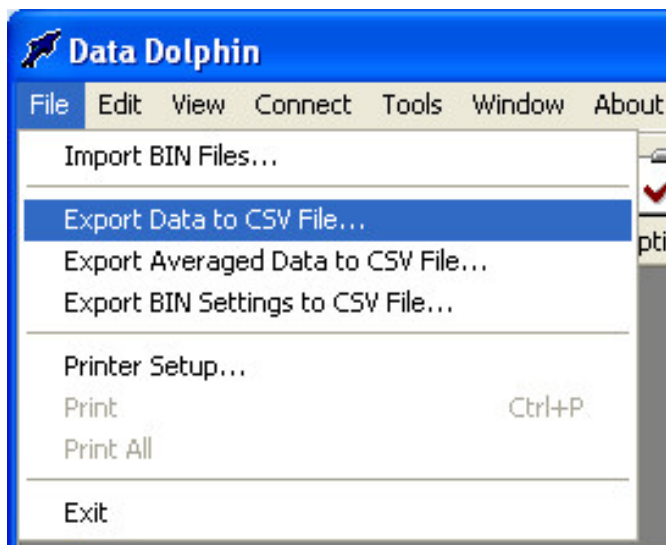

Figure 1. Export Data menu
1. Select *Export Data to CSV File* from the *File* drop down menu as shown in Figure 1 below.